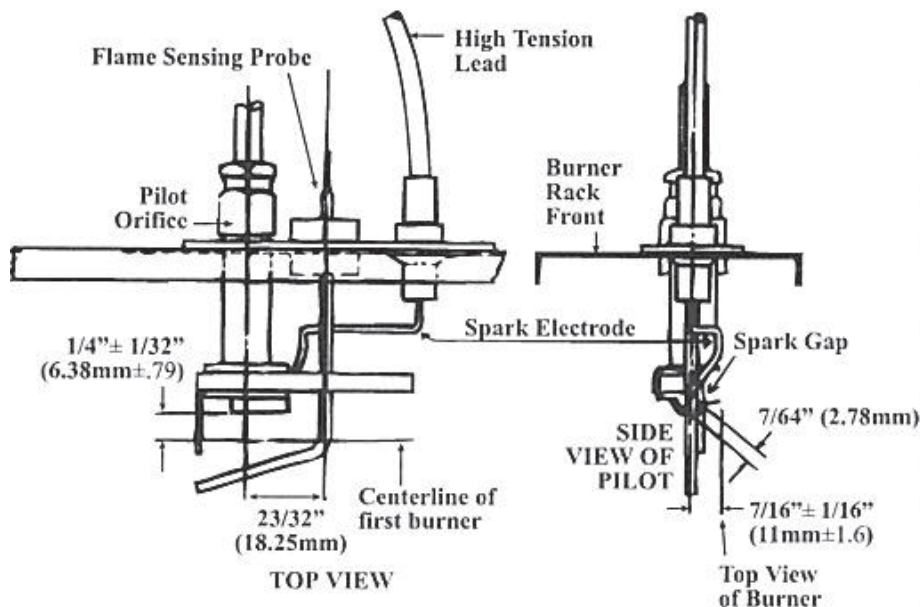

Figure 21. Pilot Assembly
3. Pilot spark gap should be approximately 7/64-inch (see Figure 21).